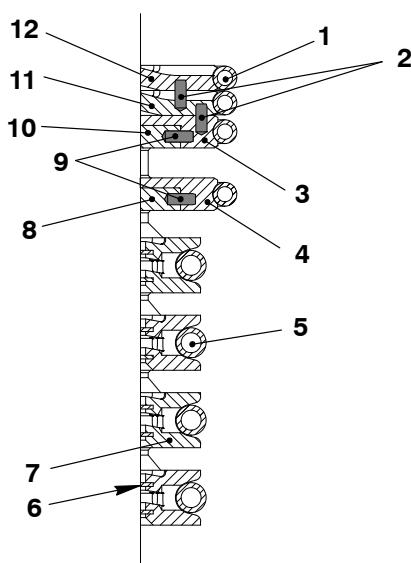

Fig. 2
- 7) Remove the parts that follow (see Fig. 2):
- Spring dowel pins (9)
- Ring supports (7).